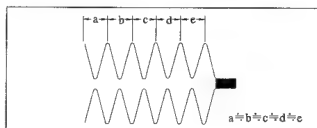

Fig. 43
5-5. CUE AND REV WAVEFORM CHECK (Fig. 43)
- 1) Play back the alignment tape for tracking adjustment and set the REV mode. Confirm that waveform peaks maintain a constant pitch of 5 seconds or more (Fig. 43). In case pitch is not constant, perform section 5-2. Tracking Fine Adjustment and section 5-4. No.7 Guide Adjustment.
- 2) Set the CUE mode. Confirm that waveform peaks still maintain a constant pitch of 5 seconds or more (Fig. 43). Otherwise, perform section 5-2 Tracking Fine Adjustment.